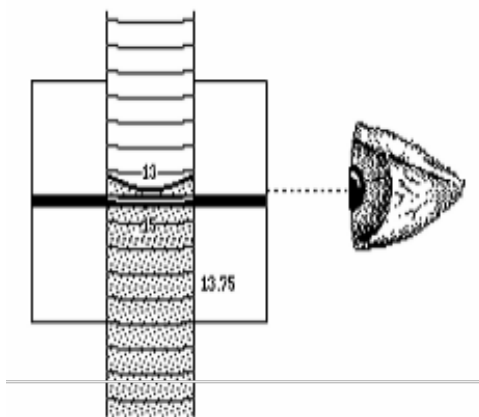

Figure 4. Reading the Meniscus
**Figure 4.** shows the use of a card with a dark strip on it to sharpen the image of the meniscus. You will find by experiment that if the top of the strip is positioned slightly below the level of the liquid in the buret, the bottom of the meniscus will be very easy to see.